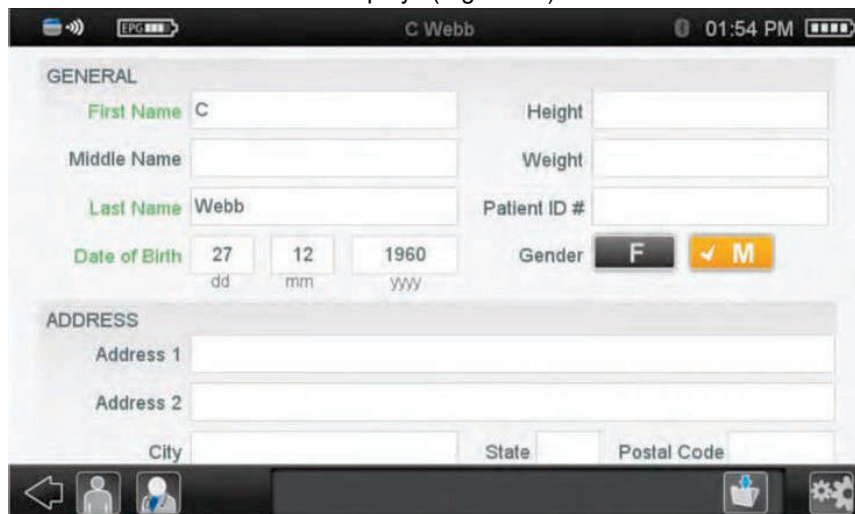

Figure 10. Patient Information screen
4. Tap **Confirm**. The Patient Information screen displays (Figure 10).
1. Tap  (Manually Add Patient). The Patient Information screen displays (Figure 10).